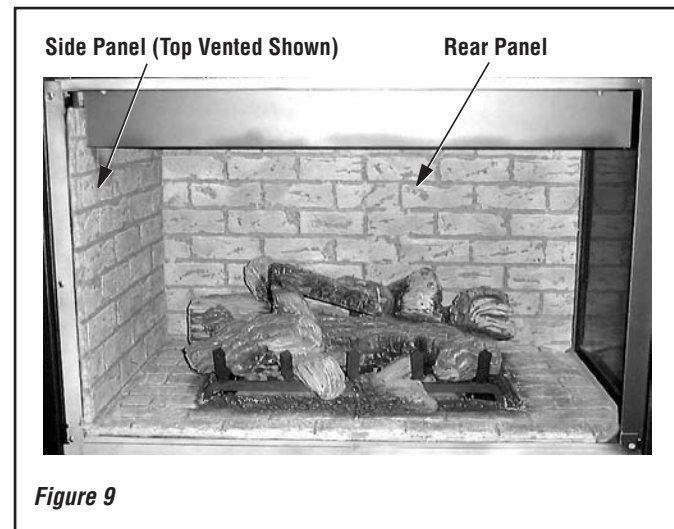

Figure 9
2. Slide the provided side panel into the unit as shown in **Figure 9**. (See **Note Above**).